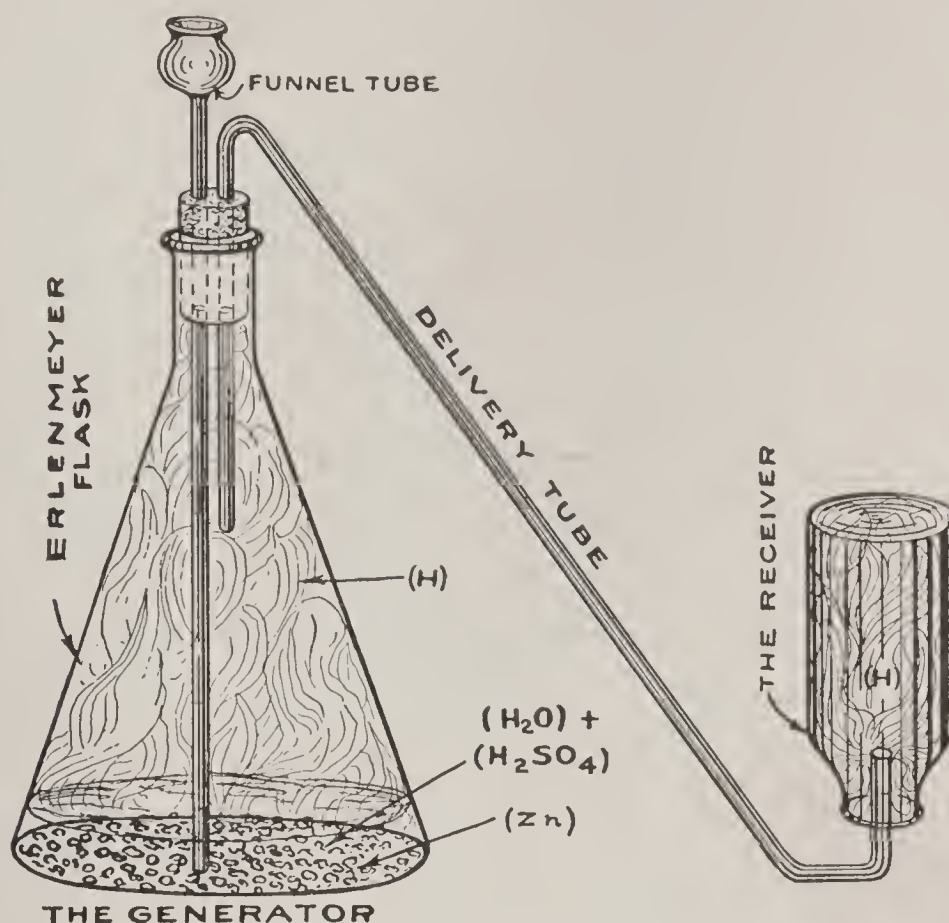

FIG. 78.—How to Make Hydrogen.
This done, pour a little sulphuric acid (H_2SO_4), or *oil of vitriol*, as it is sometimes called, into the flask and add 5 or 6 times its volume of water (H_2O), and the zinc (Zn) will instantly act on it; the solution will boil and a great deal of heat will be evolved and a large amount of hydrogen (H) will be set free. As hydrogen (H) is so much lighter than the air, it can be collected in an inverted bottle, as shown in Fig. 78, where it will displace the air and remain for some time.